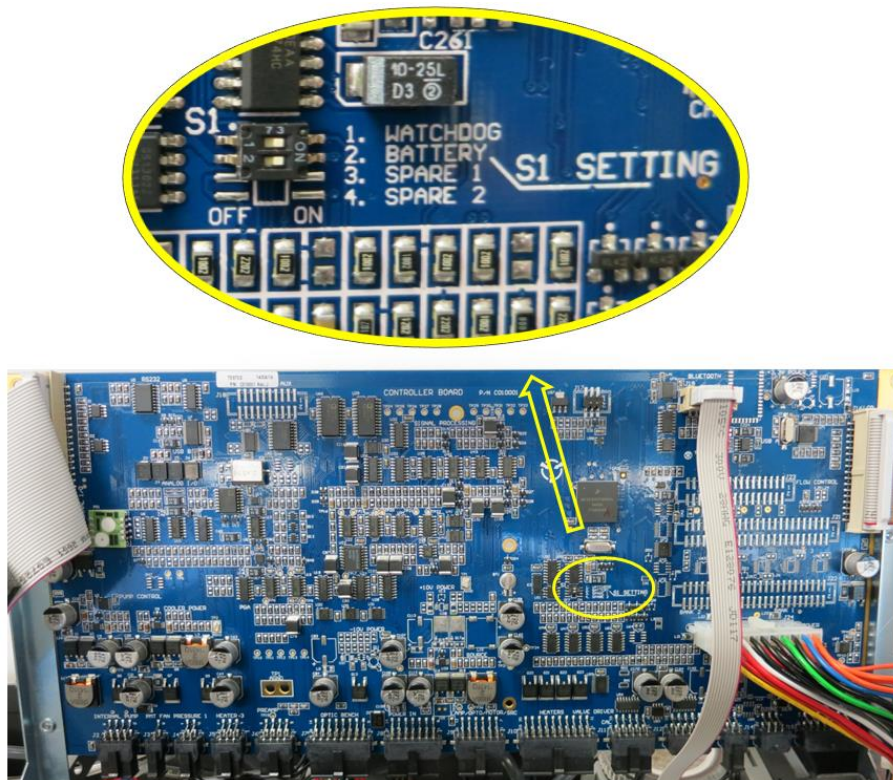

Figure 7 – Switching the Battery On/Off
2. Check the battery is turned on at the main controller PCA (refer to Figure 7).
3. If storing over a long period (six months) turn the battery off by switching the DIP switch (S1) on the main controller PCA (refer to Figure 7).